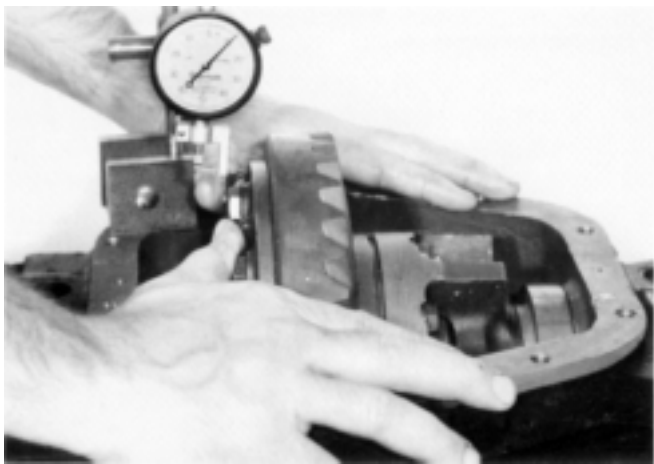

Figure 3-43
| (2) | Total amount of space measured with gear set assembled in carrier as shown in step 44, figure 3-43 | Measurement B | _____ |
| (2) | Total amount of space measured with gear set assembled in carrier as shown in step 44, figure 3-43 | Measurement B | .065" (1.65 mm) |